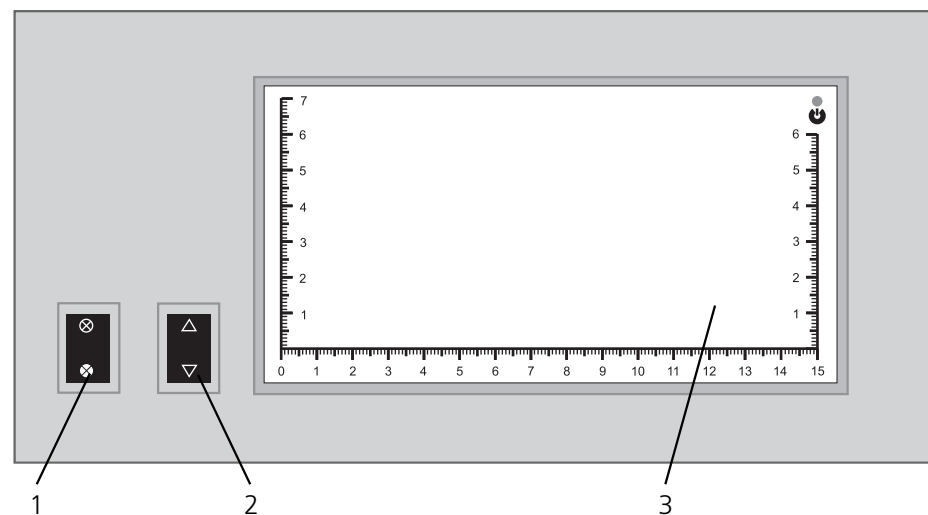

Fig. 2
Use the switch 2 (Fig. 2) to select the white light control mode:
2. Place one or several bank notes at the front panel of the device within the viewing zone (Fig. 2).
3. Using the switch 1 on the front panel (Fig. 2) select the desired operating mode: